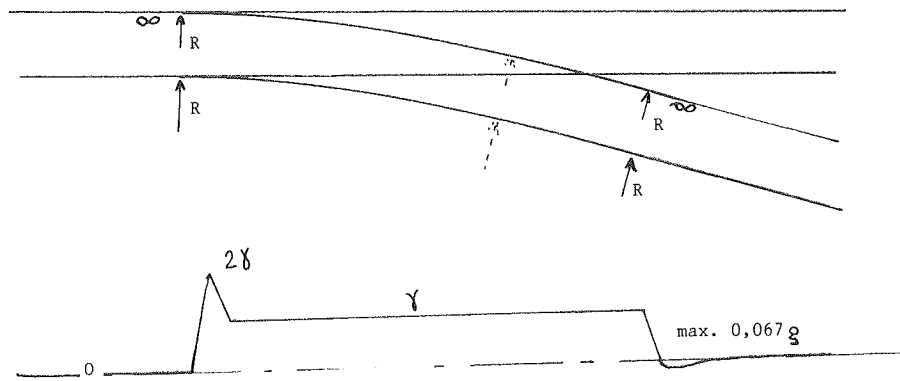

FIGURE 1 Diagram of centrifugal acceleration.
Generally, the geometry of the diverted track is a constant radius [e.g., a turnout n.20 with a constant radius (1) on the diverted track will allow a speed of 62.5 mph] (see Figure 1).